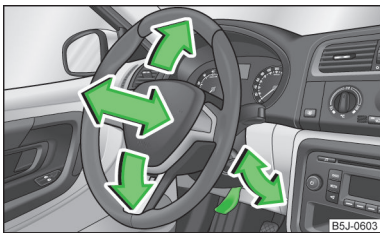

Fig. 2
- Swivel the lever underneath the steering wheel downwards » Fig. 2.